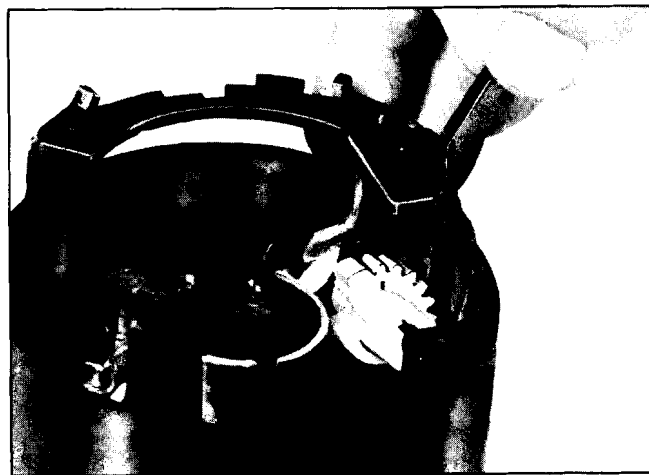

Fig. 9-43 Removing or Installing Rack Load Spring
13. Remove the rack load spring (Fig. 9-43).